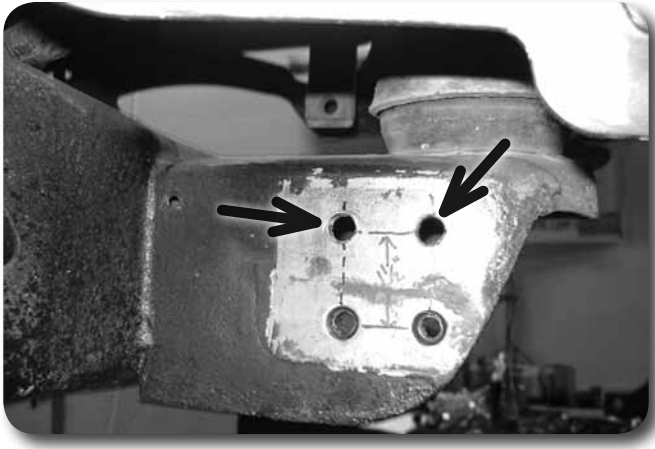

Figure 29
54. Locate the original outside bumper support bracket mount holes on each front body mount. Measure straight up from the center of the holes 1-1/2" and mark. Drill 7/16" holes at the marks (4 total). **Figure 29** The brackets will be attached after the bumper is in place.